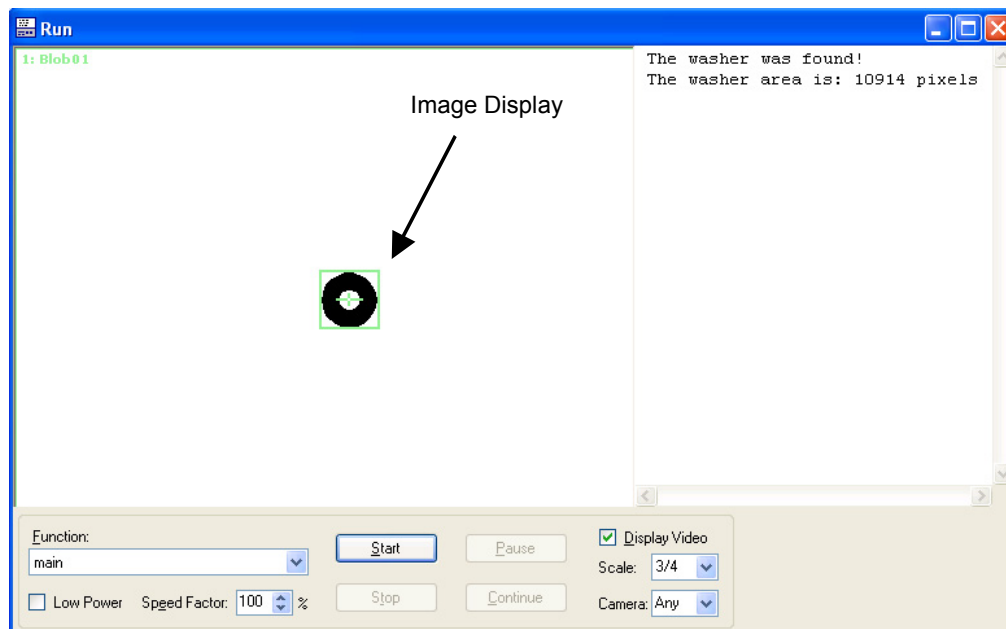

Figure 10: A sample Run window display after running "main"
- (2) Click on the Start button located at the bottom left corner of the Run window. This will cause the function called "main" to run.
- (3) You can see sample results in Figure 10 from running the function "main". Notice that when the blob is found, it is highlighted in green in the image display on the left side of the Run window. The right side of the Run window displays text that states that the blob was found and the area of the blob.
- (4) Double click the Control-menu box of the Run window that is located in the upper left corner of the Run window. This will close the Run window.